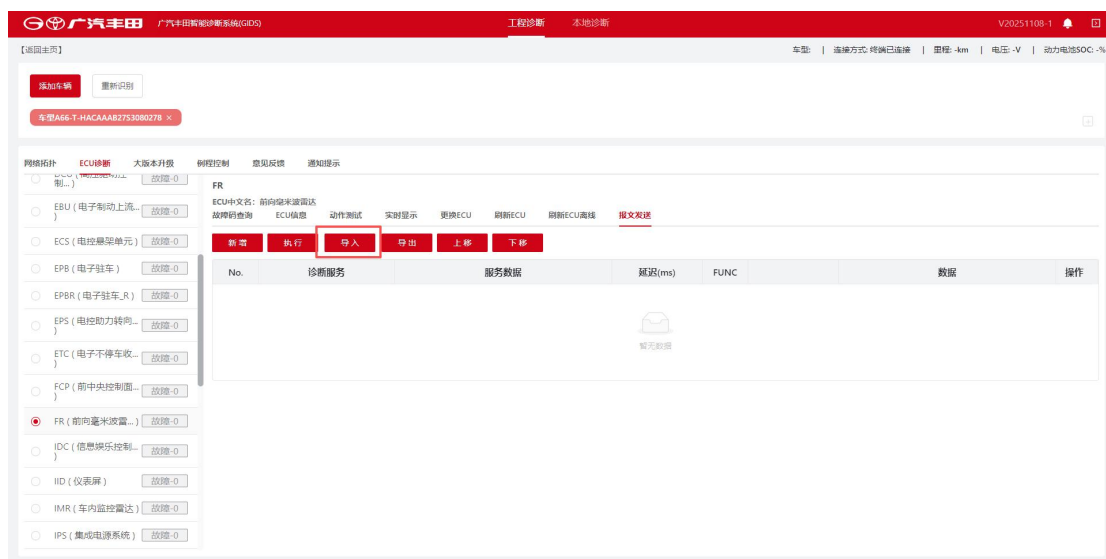
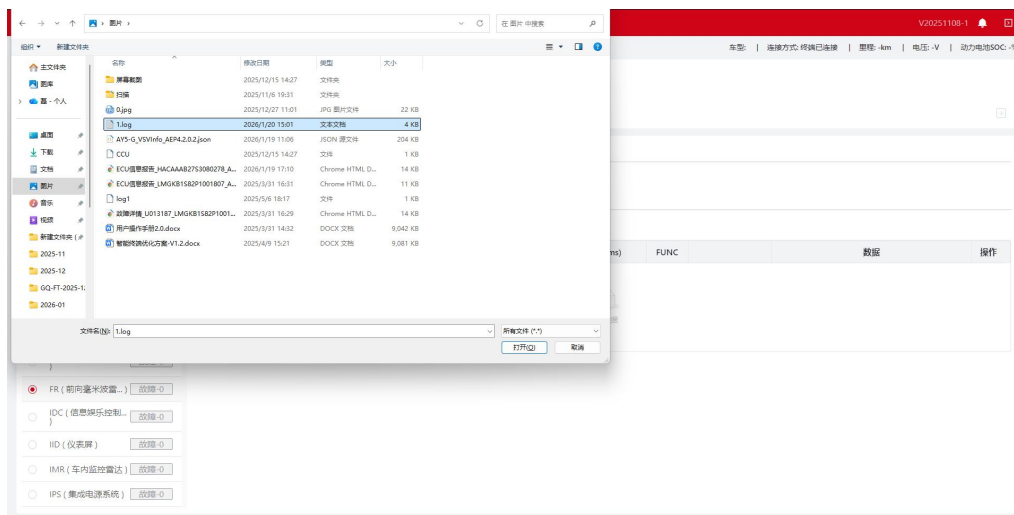

Figure 5-36 Import Button
Figure 5-37 Using a Local File
2. Click [Import], as shown in Figure 5-36 Import Button and Figure 5-37 Using a Local File, to import content that conforms to the diagnostic message format.